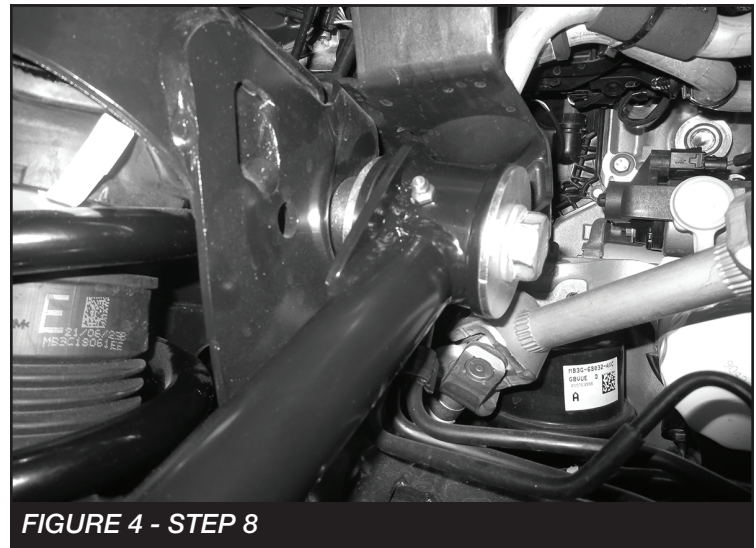

FIGURE 4 - STEP 8
8. Install FT30972 (Driver upper control arm) onto the vehicle using the factory bolt, supplied M14-2.0 (Coarse nut) and two FT20836 (washers) on the outside of the bushings. **NOTE: Identify the threads on the supplied nuts before installing. NOTE: Apply grease to the side of the FT20836 that will make contact with the bushing. SEE FIGURE 4**